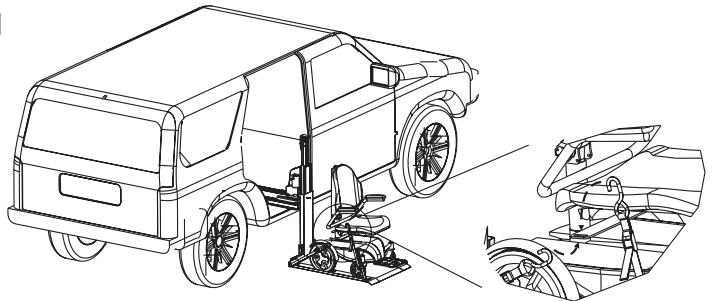

Figure 4-2
- 3. Secure the Chair.** Each corner of the AL690 platform has a restraint attached, with a hook on the end. Place each hook in either the anchor plate slot or in each U-bolt. [Figure 4-2]